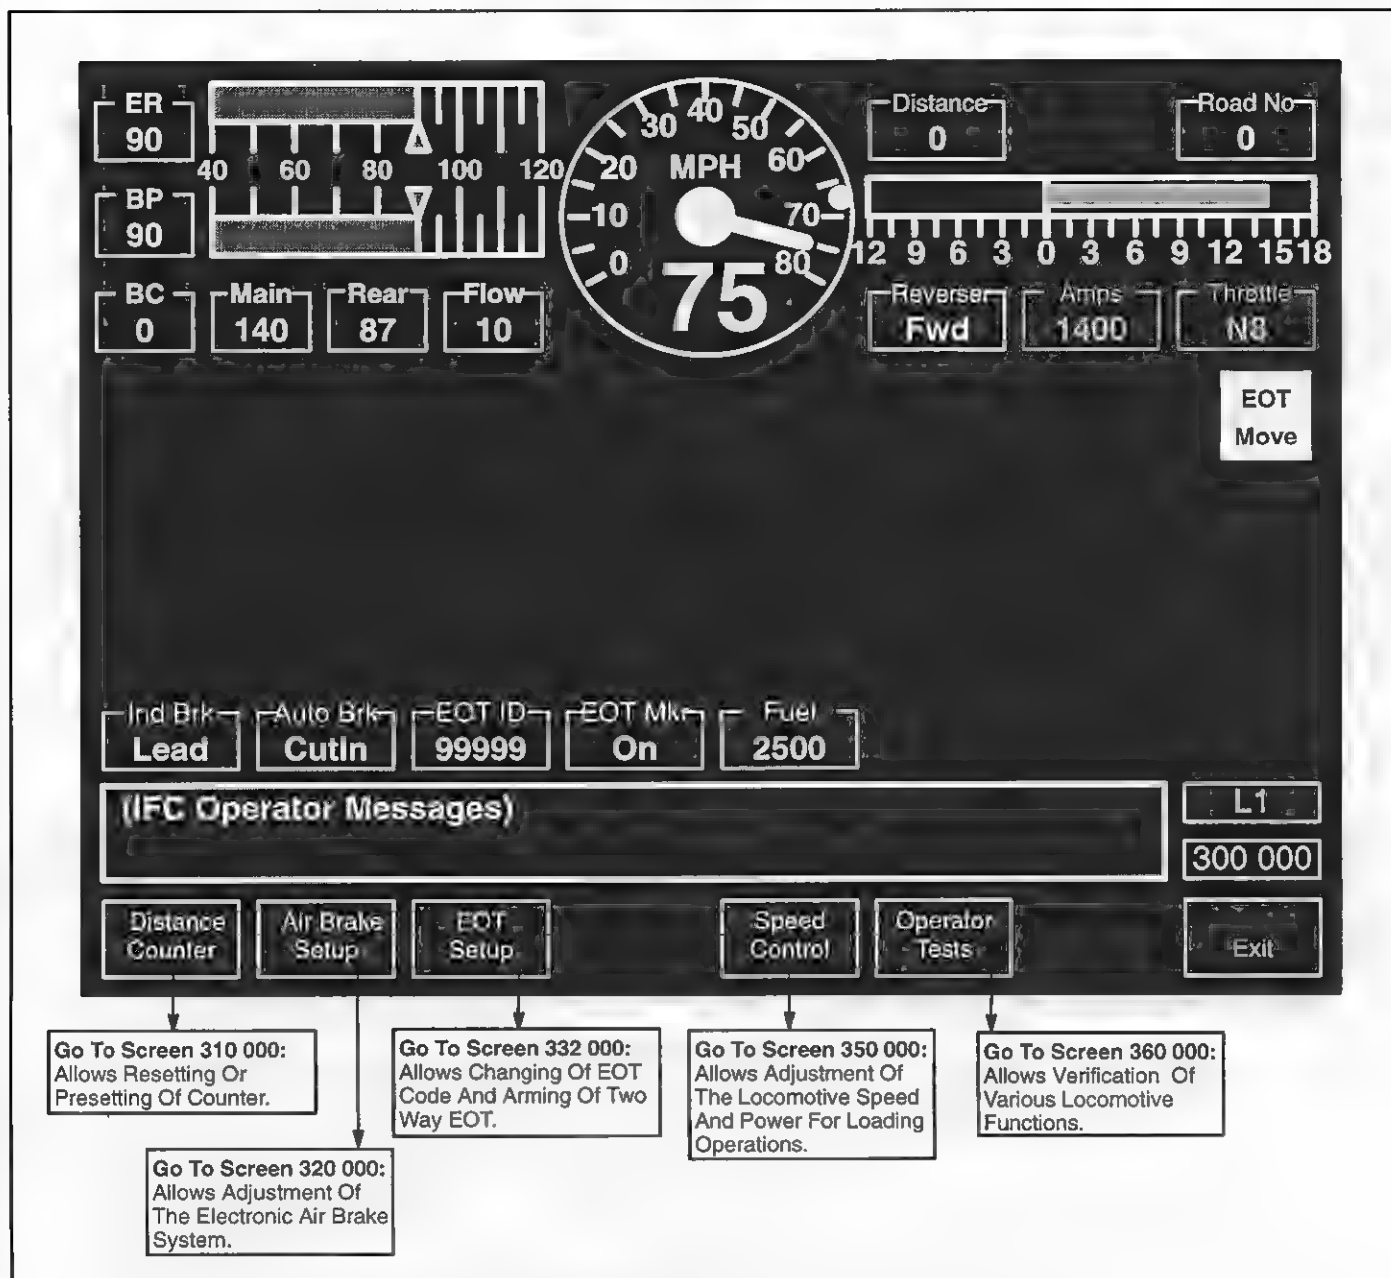

FIG. 36. OPERATOR FUNCTION SCREEN (300 000). E-42511A.
- a. Select **Air Brake Setup** (Fig. 36) found on Operator Function screen and verify correct unit status (also refer to Railroad Specific Procedures). Ensure unit is setup for LEAD (if Lead unit, of course) with the proper Equalizing Reservoir setting.
6. Ensure End Of Train function is properly set. Select **EOT Setup** (Fig. 36) found on Operator Function screen and follow instructions.